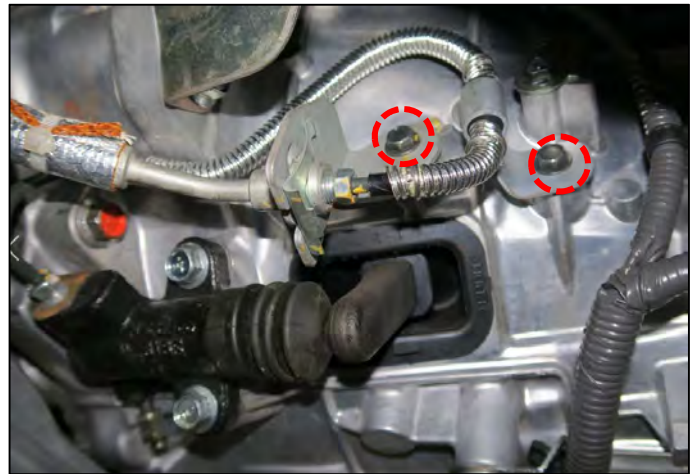

Figure 97
96. Install the (2) hydraulic clutch line bracket bolts. (Figure 97)